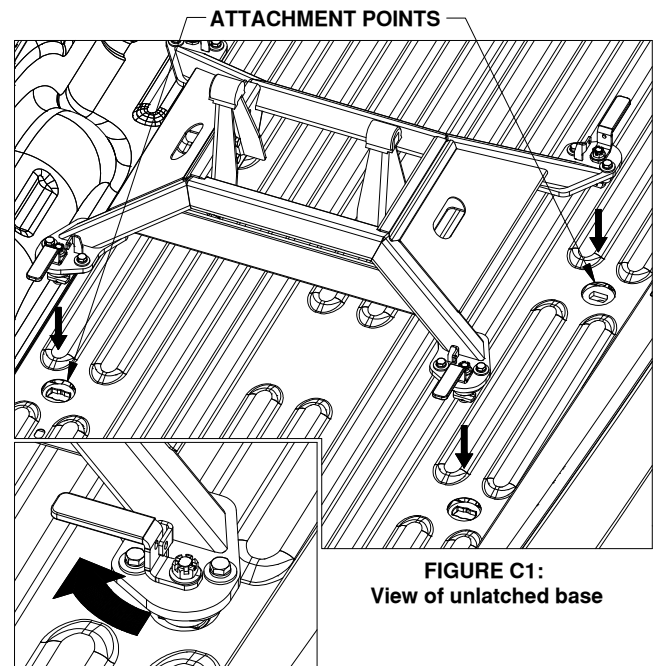

FIGURE C1:
1. The Companion base will mount to four attachment points in the truck bed. Remove any debris and/or obstructions from the truck bed, this includes any plastic caps which may be over the attachment points. Remove the latch pins from each of the four latching mechanisms on the base and rotate the handles out, see figure C1. Place the Companion base over the attachment points and carefully lower it until the pilot keys have passed through the slots in each attachment point and the pilot shoulders are resting flat against the top of the attachment points, see figure C3.